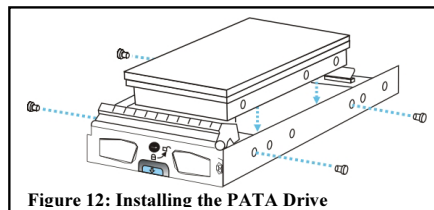

Figure 12: Installing the PATA Drive
3. Adjust the drive's location until the mounting holes in the drive canister are aligned with those on the hard drive. Secure the drive with four (4) of the supplied 6/32 flat-head screws. (See Figure 12)